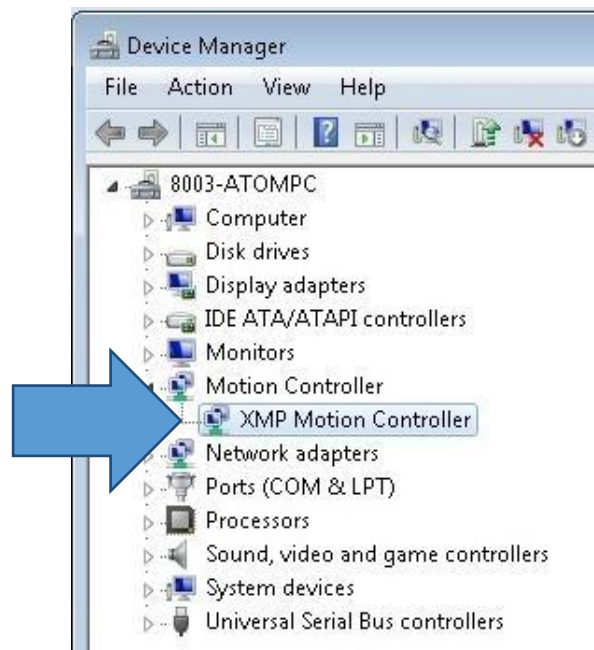

Figure 26 Device Manager
27. Go to Device Manager (RMS device) and check for the Motion Controller as Figure 26.